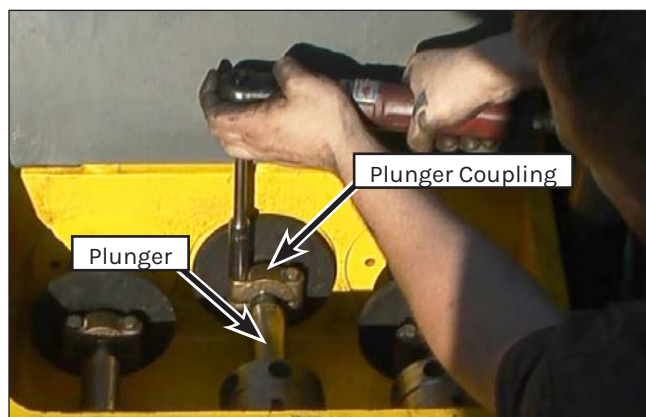

Figure 178: Plunger Coupling Removal.
2. Open the rod box cover and remove the two capscrews that secure the plunger coupling (Figure 178) to the plunger and remove the coupling.